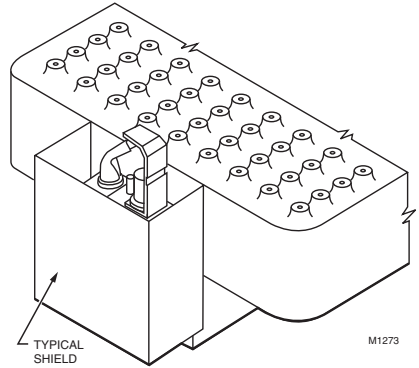

Fig. 5. Proper shielding of pilot flame.
3. If all mounting and location instructions are followed but pilot continues to go out, construct a shield to protect pilot flame from main burner ignition, extinction and drafts. See Fig. 5.